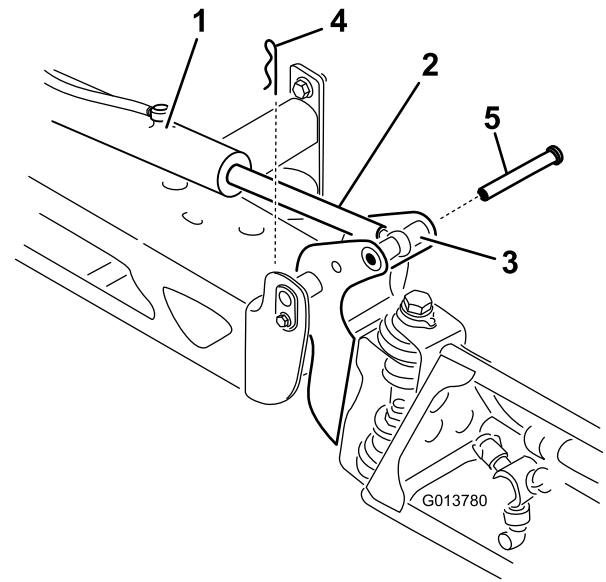

Figure 36
2. Remove the cotter pin from the pivot pin (Figure 36).
3. Lift up on the boom and remove the pin (Figure 36). Slowly lower the boom to the ground.
6. Lift up on the boom to align the pivot with the actuator rod. While holding the boom, insert the pin through both boom pivot and actuator rod (Figure 36).